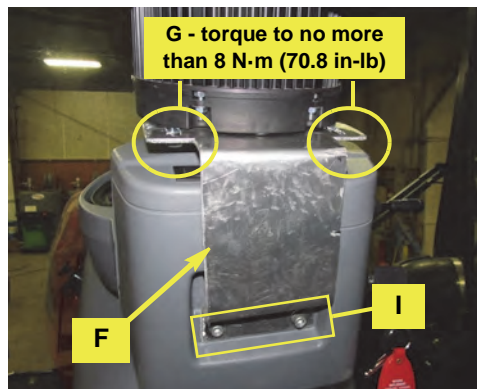

Figure 4b: Anti-rotation bracket installation completed
- b. Carefully position anti-rotation bracket **F** and, using hardware **I**, attach it to the steering console (Figure 4a bottom right inset and Figure 4b). Tighten hardware **G** in the base of the wheel assembly (not visible) to no more than **8 N·m (70.8 in-lb)**.